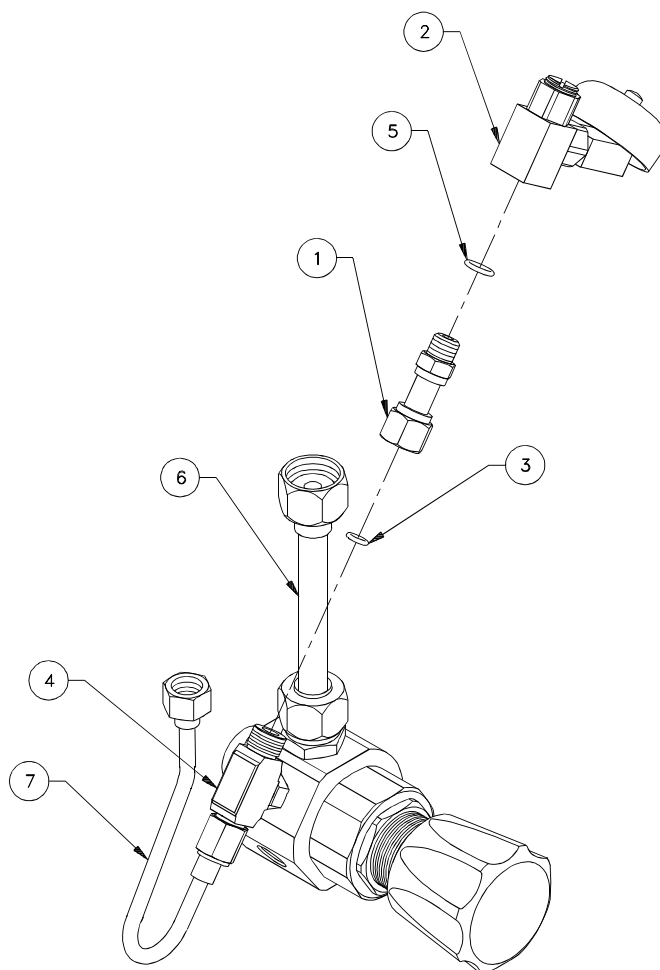

Figure 6-7. LP Alarm (F-024)
### 6.5.2.8 LP Alarm (F-024) Removal and Replacement (Figure 6-7).
- (1) Install O-ring (5) on union (1). Install union (1) on alarm (2); hand-tighten.
- (2) Place LP alarm (2) on work table; hold body with 3/4" wrench and tighten union (1) with 9/16" wrench.
- (3) Install O-ring (3) in tee (4).
- (4) Situate alarm as shown in Figure 6-7, positioning LP alarm body beneath tube (6). Hand-tighten lower union nut (1) onto tee (4).
- (5) Grip LP alarm (2) and tube (6) and tighten lower union nut (1) with 11/16" wrench. Ensure alarm does not touch tube (6) or LP gauge isolation valve (ALP-V207).
- (6) Check to ensure tee (4) retaining nut is tight with 9/16" wrench and tube (7) nut is tight against tee (4) with 11/16" wrench.
- (7) Conduct system tightness test IAW paragraph 6.5.2.2, modified as follows: